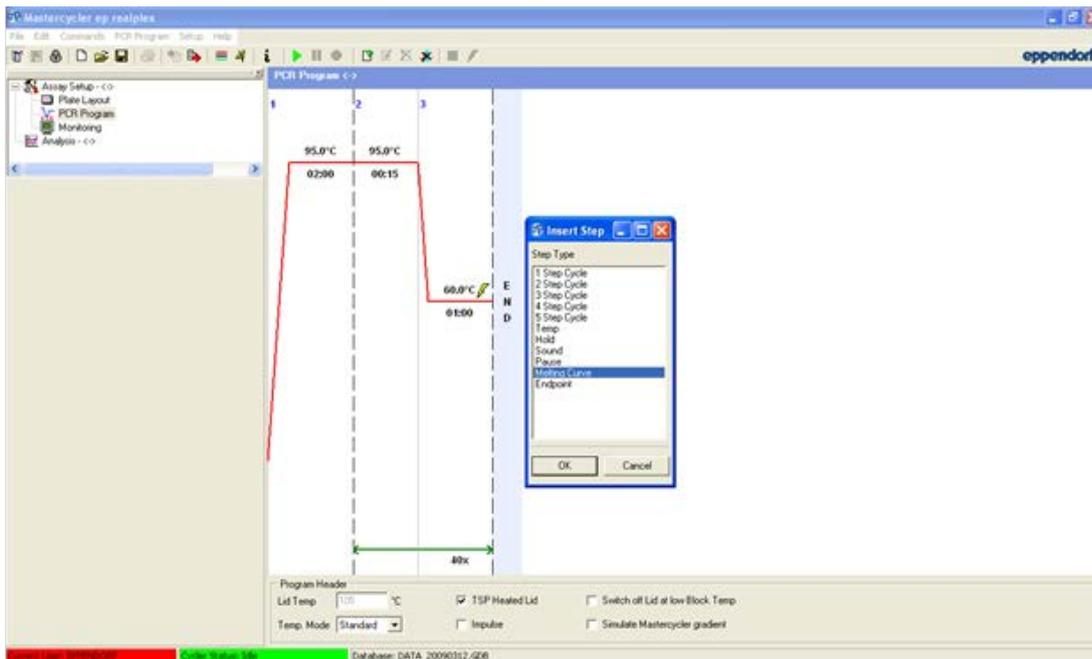

Figure 6. Adding the melting curve.
6. Right-click on “END.” Select “Add Step”, then select “Melting Curve” and click “OK” (Figure 6).